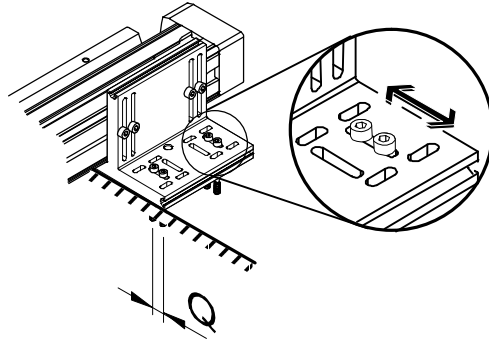

Fig. 7: Q = Play for transverse fastening
- Tighten the fastening screws for the transverse fastening at first only slightly (see Fig. 7: Q).
5. Tighten the fastening screws (see Fig. 7: Q) of the guide axis.